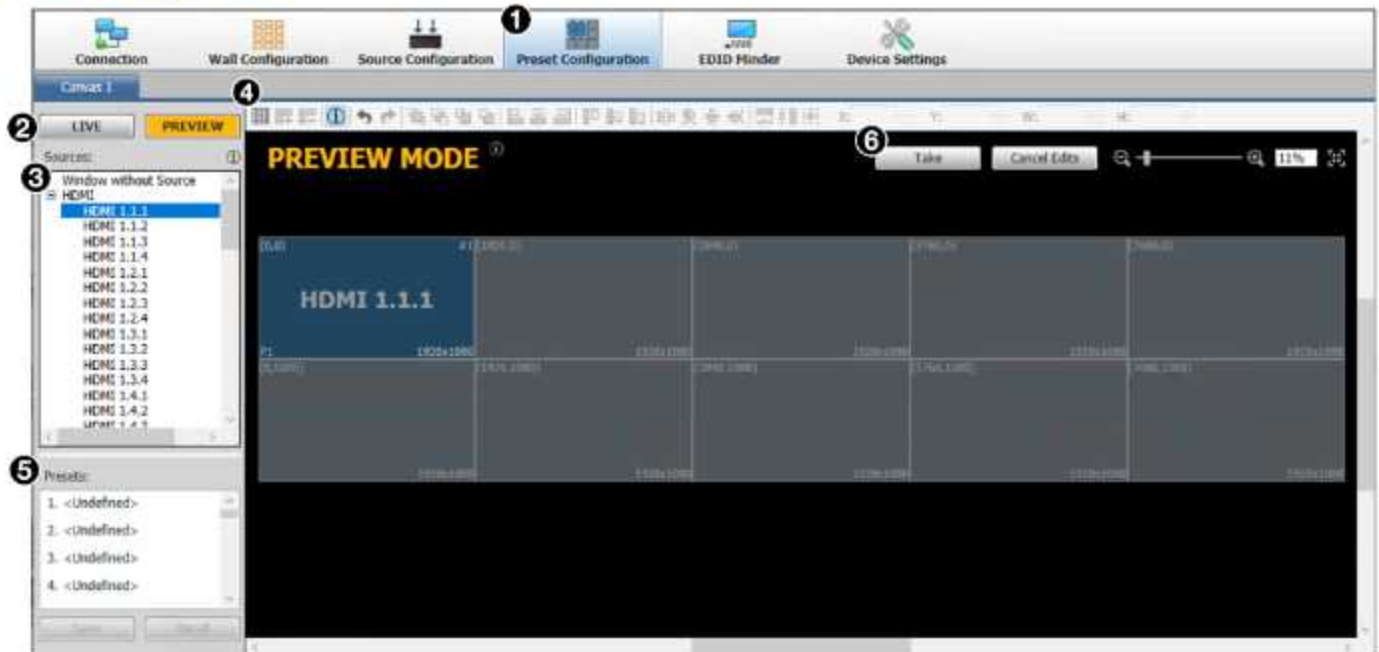

Figure 6. Preset Configuration Window
1. On the taskbar, click the **Preset Configuration** task button to display the preset configuration workspace (see figure 6, 1). The Canvas in this workspace is a virtual representation of the videowall you set up on the **Wall Configuration** screen (see Configuring the Videowall Using VCS on page 4).
2. Click the **Live** or **Preview** button (2) to select the mode in which you want to configure the preset (see the *VCS Help File* for more information on configuration modes).
- a. Click on a source name (HDMI, IP, Picture, Clock, VNC, Text, or RSS) in the **Sources** (left) panel (3), and drag it to the desired location on the Canvas. A window containing the source name appears on the Canvas (see the example at right). You can also drag in a **Window without Source**, for which no input signal is displayed in the window on the Canvas.
4. If a window completely or partially covers another window, set the priority for each window by selecting the window, then clicking a priority icon on the toolbar above the Canvas (4). The priority number of the window (P1, P2, and so on) is displayed in the lower-left corner of the window on the Canvas (see the image in step 3a, above). You can also use this toolbar to align multiple windows with each other and to set the size of multiple windows on the Canvas.
- a. In the Presets list in the lower-left corner of the screen (see figure 6, 5 on the previous page), select a slot for the preset to be saved.
6. If configuring in Preview mode, click the Take button (6) if you want to apply the preset to all displays in the system.